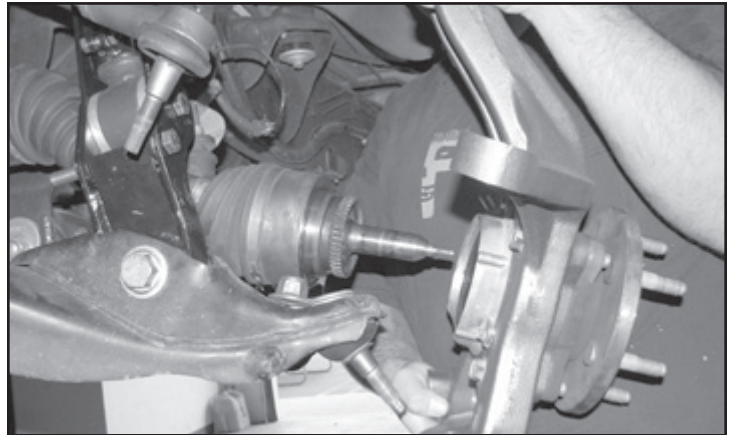

FIGURE 35 - STEP 41
41. Install the Fabtech knuckle onto the upper and lower control arms. Torque the upper ball joint to 85 ft-lbs and the lower ball joint to 110 ft-lbs. **SEE FIGURE 35**